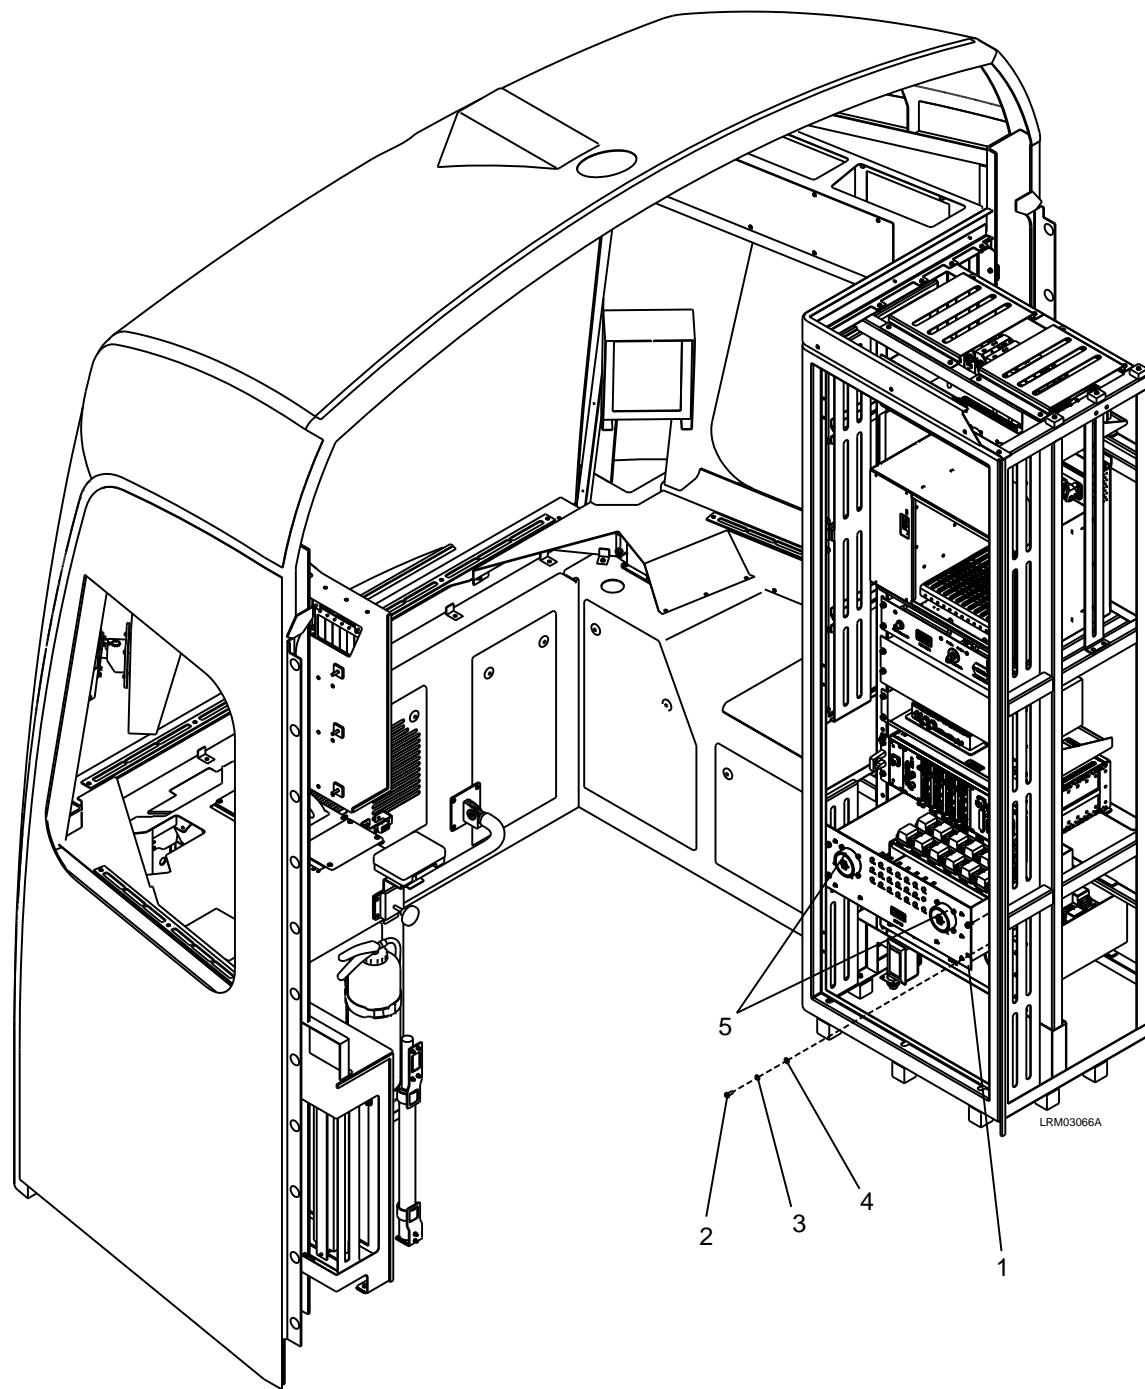

Figure 7-47: CRP6B Panel
2. Disconnect the electrical connectors (5) to the CRP6B Panel (1). See Figure 7-47.
3. Remove the four M6 x 16 screws (2), M6 lock washers (3), and M6 plain washers (4).
4. Carefully remove the CRP6B Panel (1).